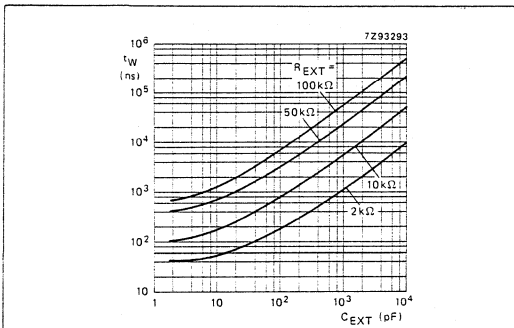

Fig. 9 Typical output pulse width as a function of the external capacitor values at $V_{CC} = 5.0\text{ V}$ and $T_{amb} = 25\text{ }^\circ\text{C}$.
For pulse widths, when $C_{EXT} < 10\,000\text{ pF}$, see Fig. 9.
1. For other R_{EXT} and C_{EXT} combinations see Fig. 9.